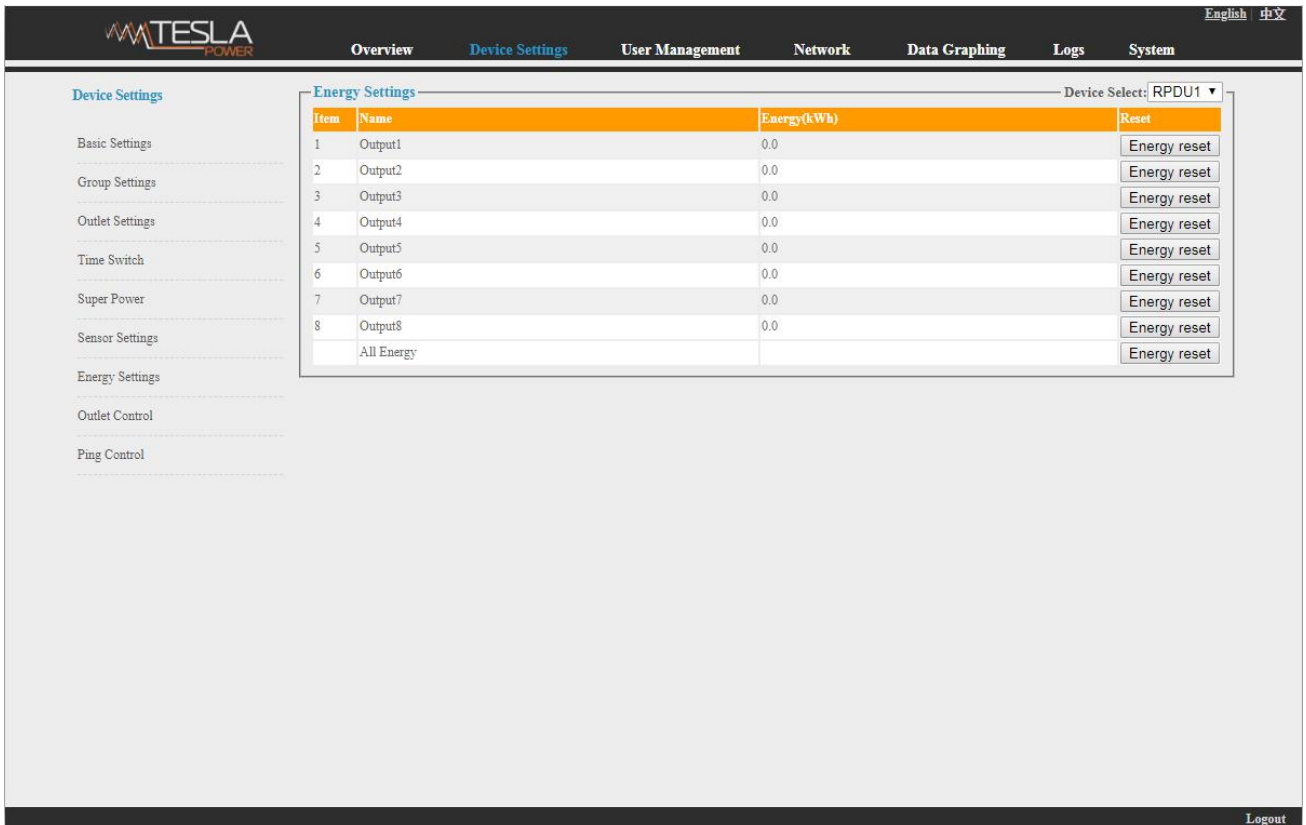

Figure 1-3-6
G. Energy setting: Click the **Energy setting** form the **Device Management** menu as Figure 1-3-6
H. Outlet control: Click the **Outlet control** form the **Device Management** menu as Figure 1-3-6